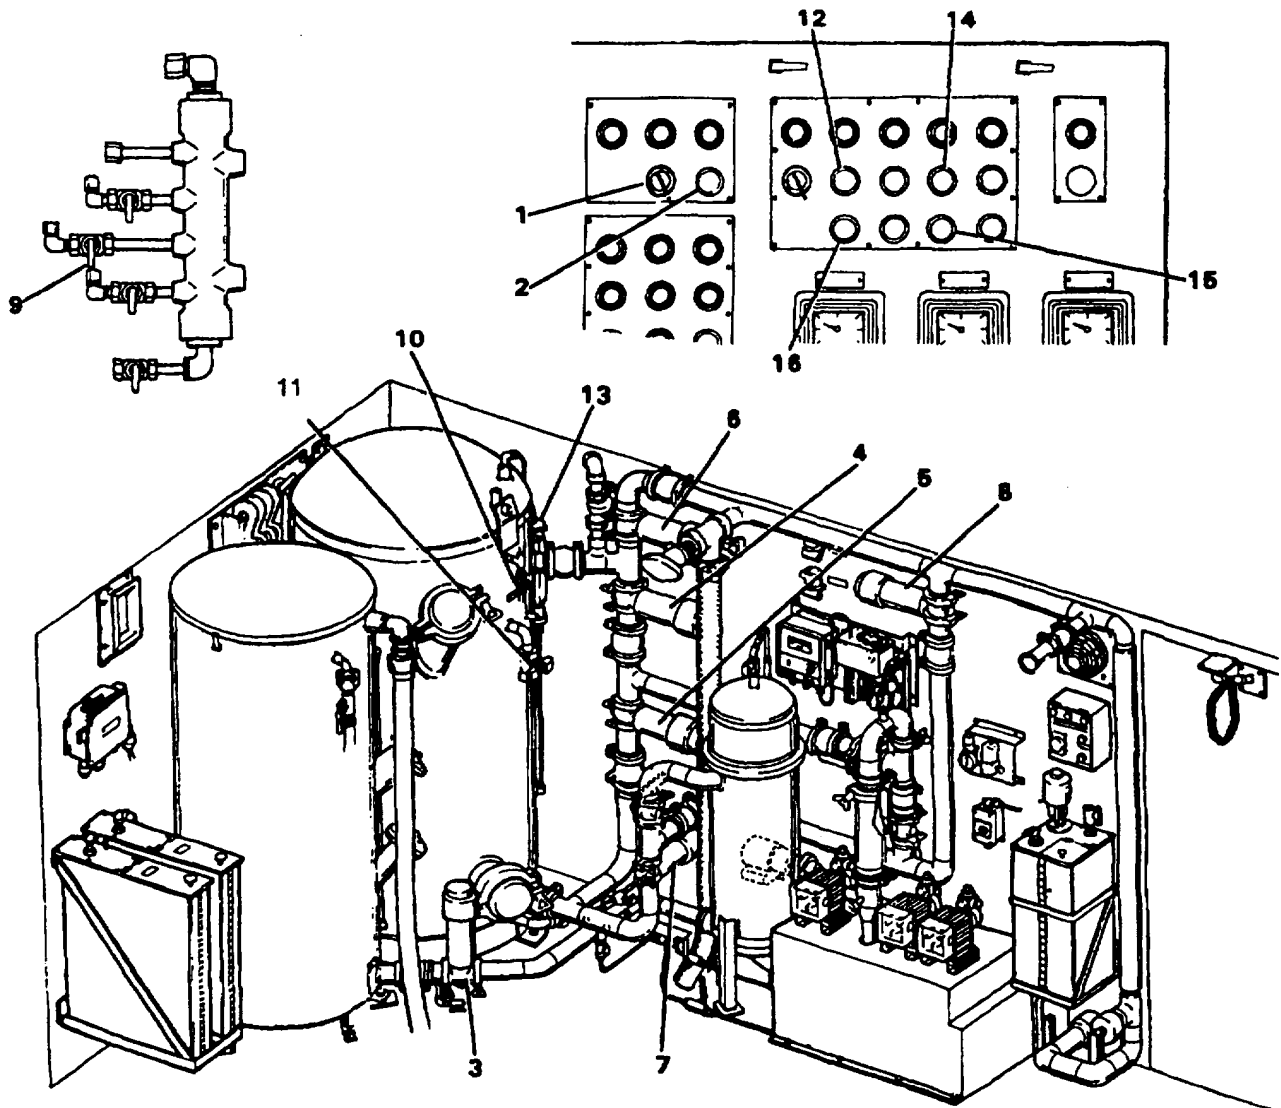

Figure 2-77. Complete Manual Media Filter Backwash
- (f) Media filter flush valve V36 (6) - closed.
- (g) Air backwash valve V22 (7) - closed.
- (5) Backwash step 5, media flush (after completion of backwash).
- (a) Clean/flush outlet valve V5 (1) - closed.
- (b) Media filter inlet valve V16 (2) - open.
- (c) Backwash inlet valve V15 (3) - closed.
- (d) Backwash outlet valve V17 (4) - closed.
- (e) Media filter outlet valve V35 (5) - open.
- (f) Media filter flush valve V36 (6) - open.
- c. Complete Manual Media Filter Backwash (Figure 2-77). This situation can occur if the backwash timing or control circuits fail. Shut down to standby and leave the OPERATION MODE switch (1) set to FILTER NORMAL. Use following procedure.